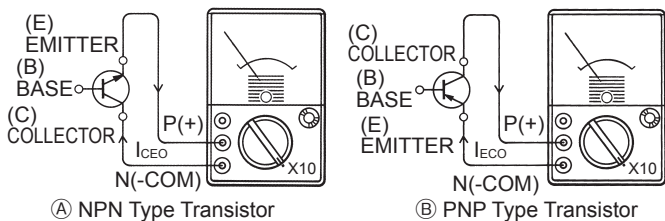
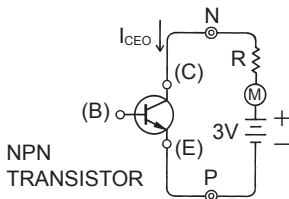

Fig. 5
Fig. 6
- (1) Use the resistance measuring ranges to test transistors.
- (2) Insert the red and black test leads into the P(+) and N(-COM) terminals respectively.
- (3) With the tips of the test leads shorted together, turn the ohm zero adjust knob so that the meter pointer lines up with the "0" mark on the right end of the ohm scale.
- (4) Connect the test leads to the transistors according to their polarity, as shown in Fig. 5 (A) for the NPN transistor and Fig. 5 (B) for the PNP transistor.
- (5) Fig. 5 may be represented by an electrical circuit (Fig. 6). (Part of the circuit located on the right side of the P/N terminals corresponds to be internal circuit of the multimeter.)
- (6) Current flowing between the P and N terminal is a reverse leakage current I_{CEO} . Take the reading on the LI scale.